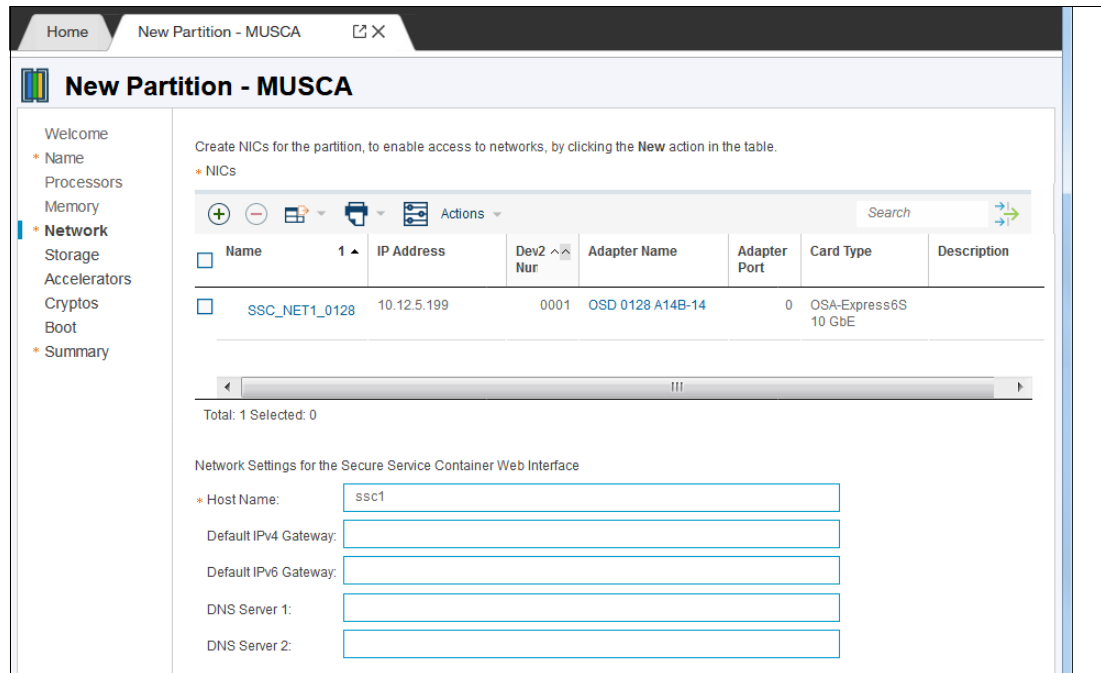

Figure 16-54 NIC configuration
7. Figure 16-54 shows the configured NIC. Click **Next** to configure the storage adapters.